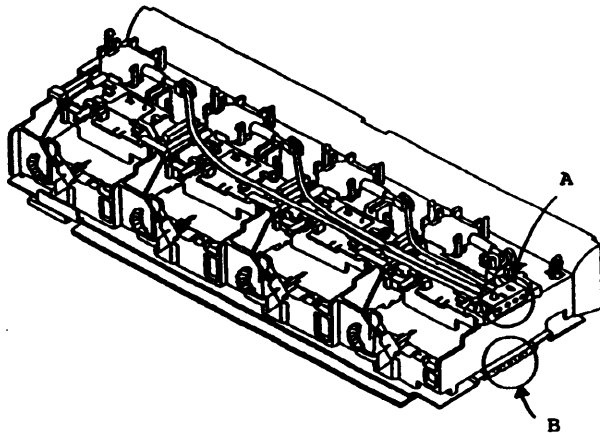

Figure 1
1. Insert the tip of a syringe (assigned as a special tool) into the ink outlet at the ink supply joint (A in Figure 1), then suck the ink from the ink supply tubes.